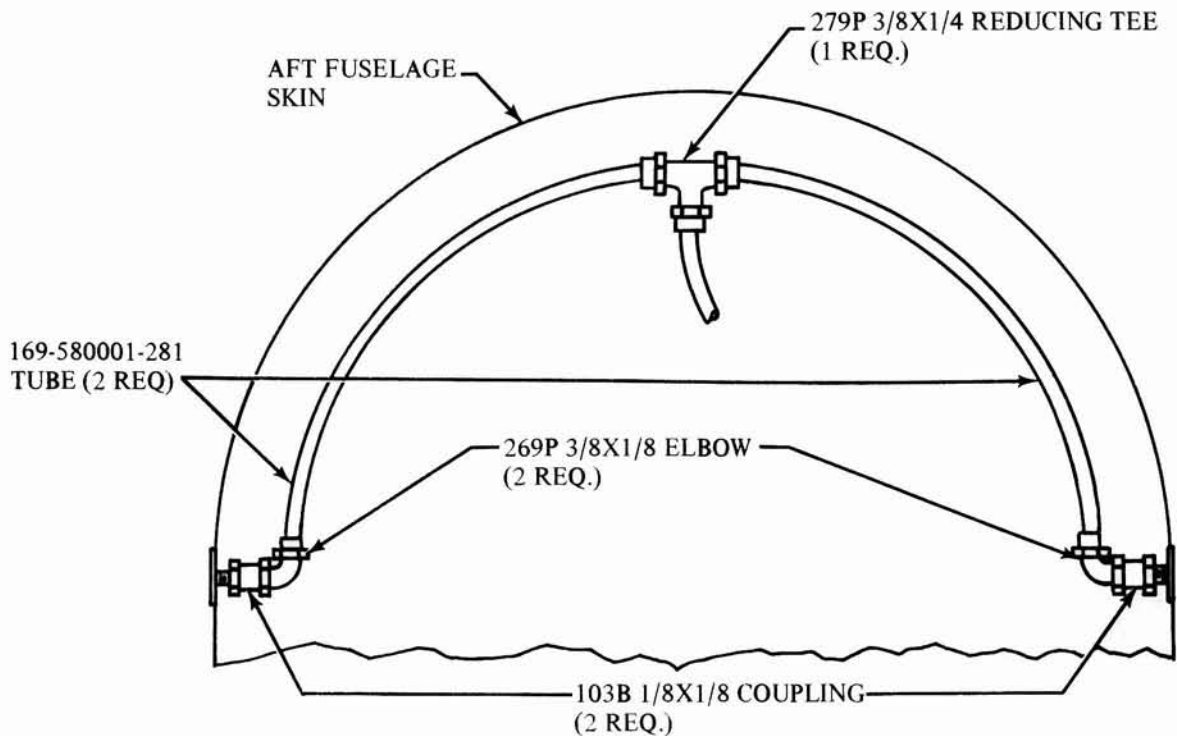

Figure 2. Modification of Static Air System.
7. Install the new P/N 169-580001-281 tubes, P/N 103B 1/8X1/8 elbows and P/N 279P 3/8X1/4 reducing tee as shown in Figure 2. The securing clamps which were removed in step 3 are to be omitted.
5. Install the new P/N 169-580001-281 tubes, P/N 103B 1/8X1/8 couplings, P/N 269P 3/8X1/8 elbows and P/N 279P 3/8X1/4 tee as shown in Figure 2. The securing clamps which were removed in step 3 are to be omitted.